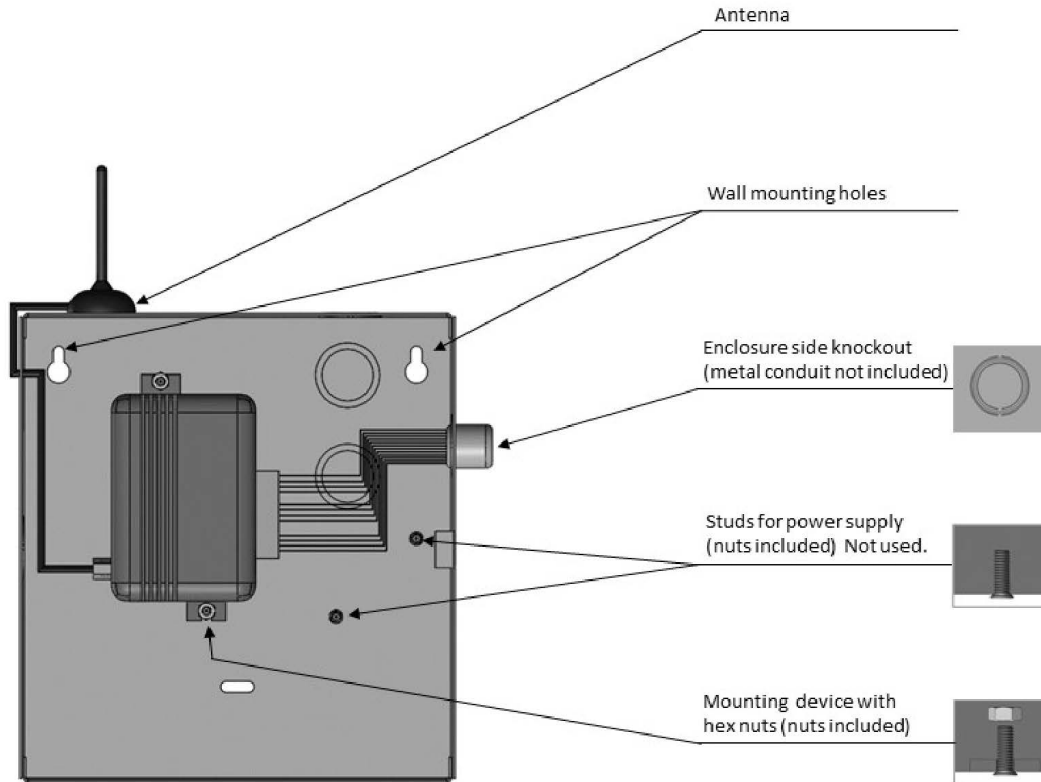

Figure 1 Mounting the Communicator into the Enclosure
- Mount the communicator inside an enclosure, for example HW-AV-ENC, as shown in Figure 1 below.
5. If using the HW-AV-ENC enclosure, mount it onto the two mounting holes as shown in Figure 1 and secure it with the hardware supplied with the enclosure. For other enclosures, use the communicator box mounting flanges as a template to drill holes for appropriate sized mounting hardware (not supplied).